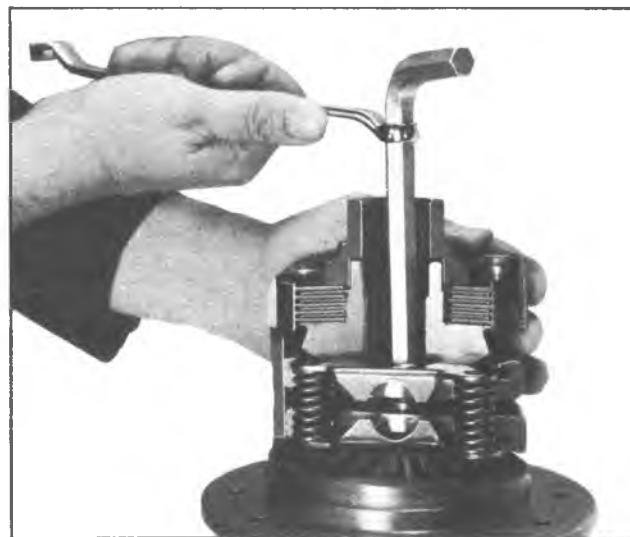

Fig. 5D—Removing Preload Spring Pack (Corvette)
3. On Corvette it will be necessary to raise the spring retainers slightly to clear the shoulder on the side gears. Install Tool J-22311 to clutch pack so that slotted ends are equally engaged at front and rear of spring retainer. See Figure 5D.